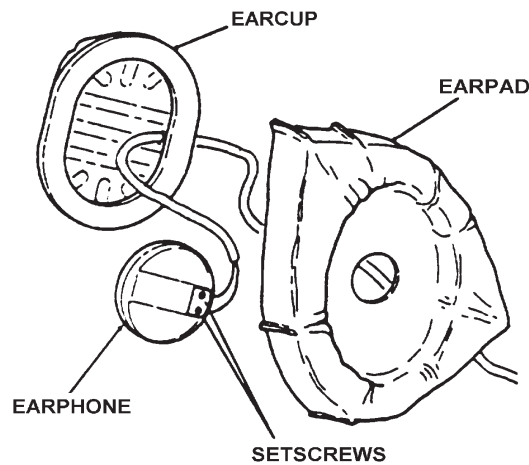

Figure 3-6. Earcup and Earphone
- e. Referring to Figure 3-6, loosen the two setscrews, and remove the earphone contacts from the left-hand and right-hand earphones.